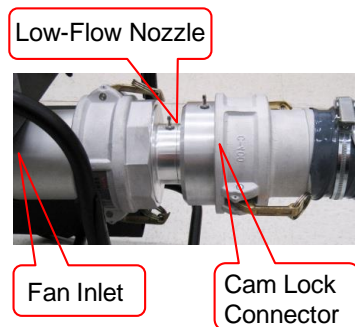

Figure 9. Negative Pressure, Low-Flow Set-Up
- d. For negative pressure, low-flow testing, add the low-flow nozzle to the blower inlet if it is not installed. Then, connect the grey cast aluminum cam lock nozzle connector to the low-flow nozzle per Figure 9. Close both cam lock arms at the same time to ensure proper fit.